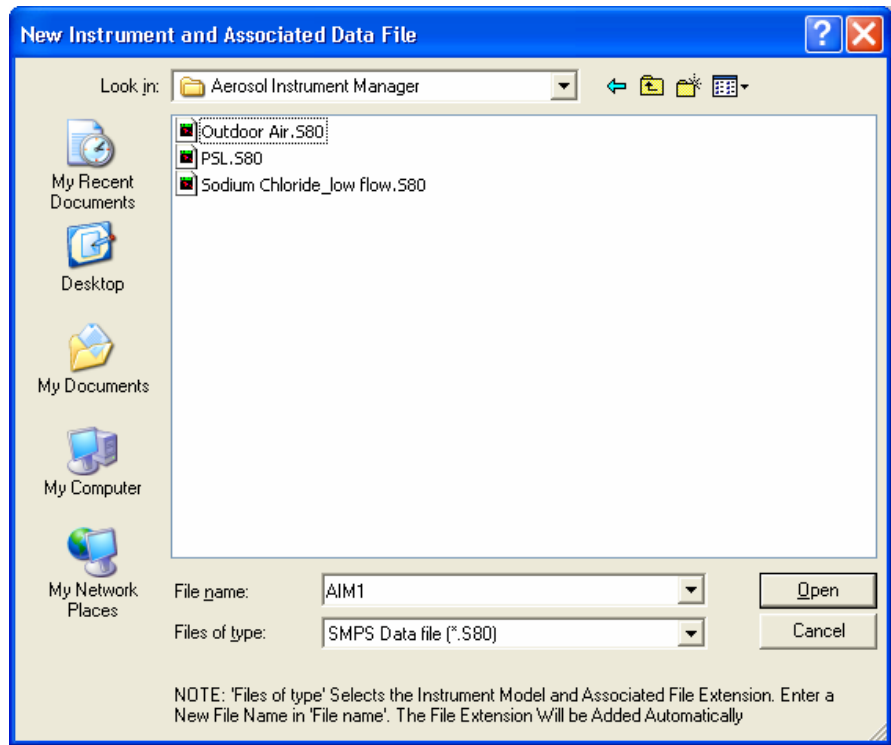

Figure 4-1
1. Select **File | New** or  on the toolbar. The New Instrument and Associated Data File dialog box (Figure 4-1) opens on your desktop.